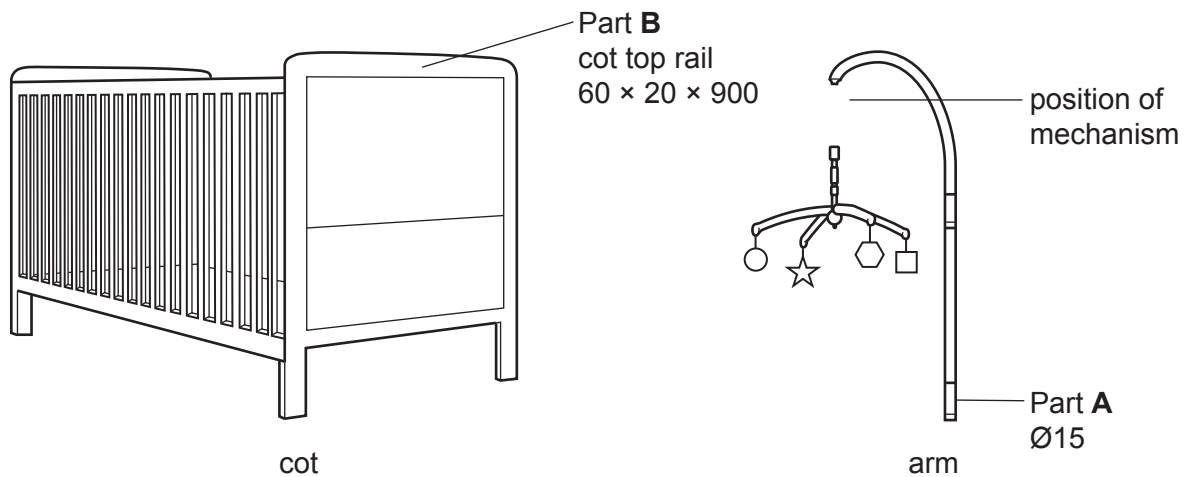

Fig. 9.1
- 9 Fig. 9.1 shows a baby's cot and an arm for a mobile.